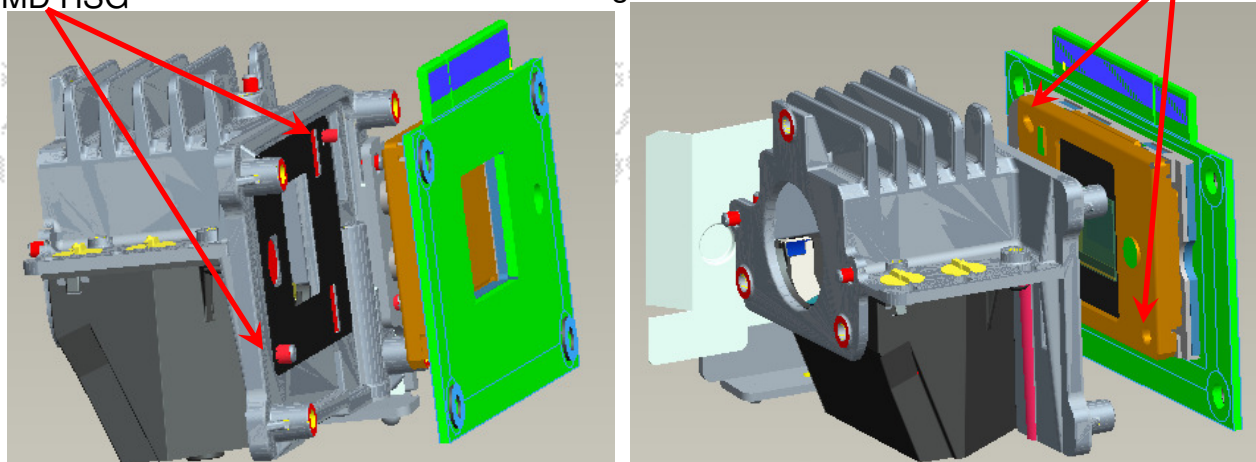

Fig.7-2
7.2 Assemble Chip B/D Module to "HSG DMD" (Fig. 7-2).